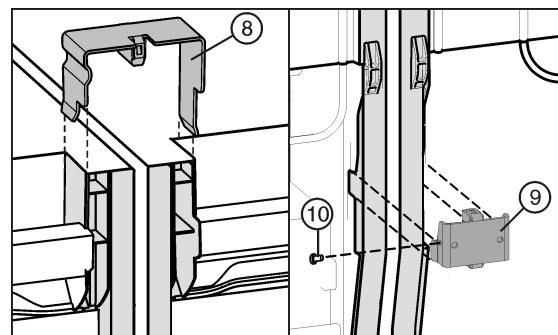

Fig. 25
- Place the connecting clamps Fig. 25 (8) at the top of the centre side walls.
- Insert the connecting angle Fig. 25 (9) underneath into the corresponding space.
- If the connecting angle is somewhat loose, fit a screw Fig. 25 (10).